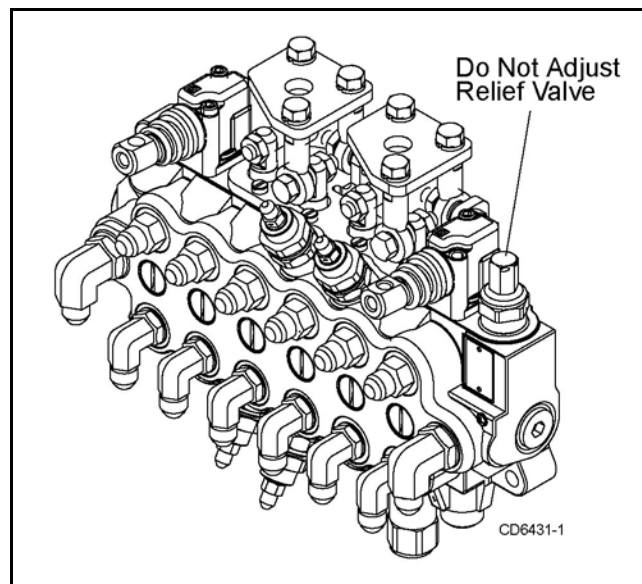

Figure 18. Relief Valve, BH85 & BH100
Relief Valve (Figure 18)
Position spool wipers (A) (Figure 18) on swing, dipper, and bucket spools in linkage plate. Reinstall control linkage. Note the screws installed in the boom and dipper spools should be tightened until snug, then backed off approximately $\frac{1}{2}$ turn to allow free movement of the joystick.